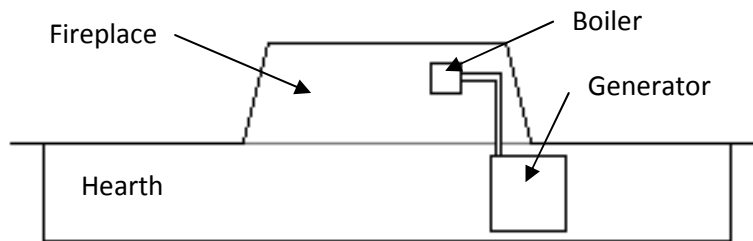

Figure 6: Top down view of Thermoelectric Generator placement
1. Position the Thermoelectric Generator on the hearth of the fireplace as shown in Figure 6 below. The boiler should extend into the fireplace.